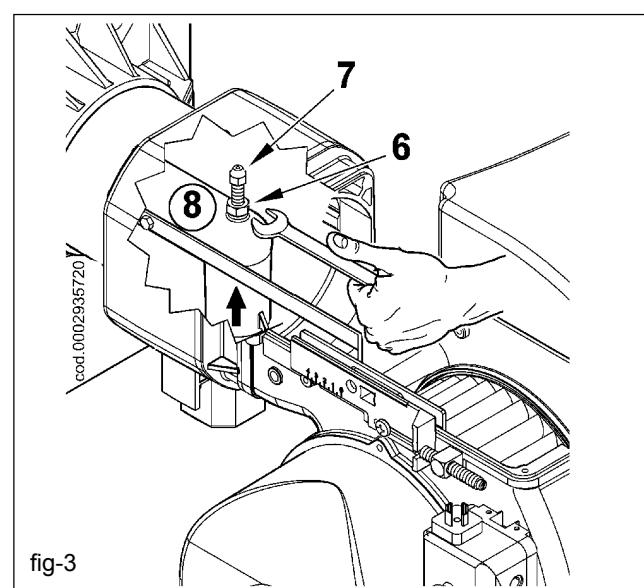

fig. 3
- 3) Completely unscrew the nut (6) and tighten the screw (7), moving it forward inside the gas delivery connection (8) far enough to permit subsequent dismantling of the mixing unit. Slightly raise the gas delivery union (8) out of its housing (figure 3).